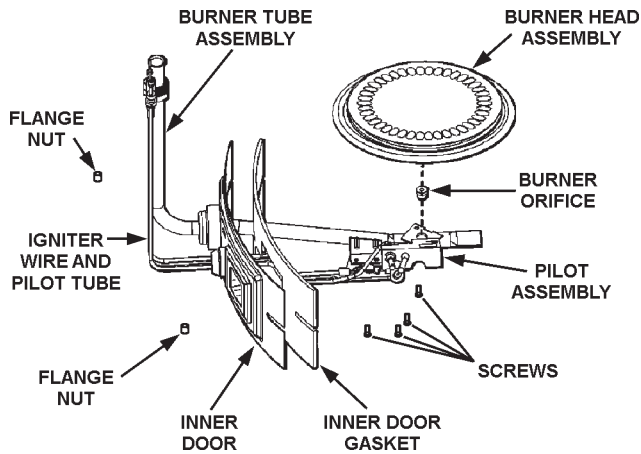

FIGURE 13.
9. Remove flange nuts holding inner door in place with 3/8" nut driver, see Figure 13.